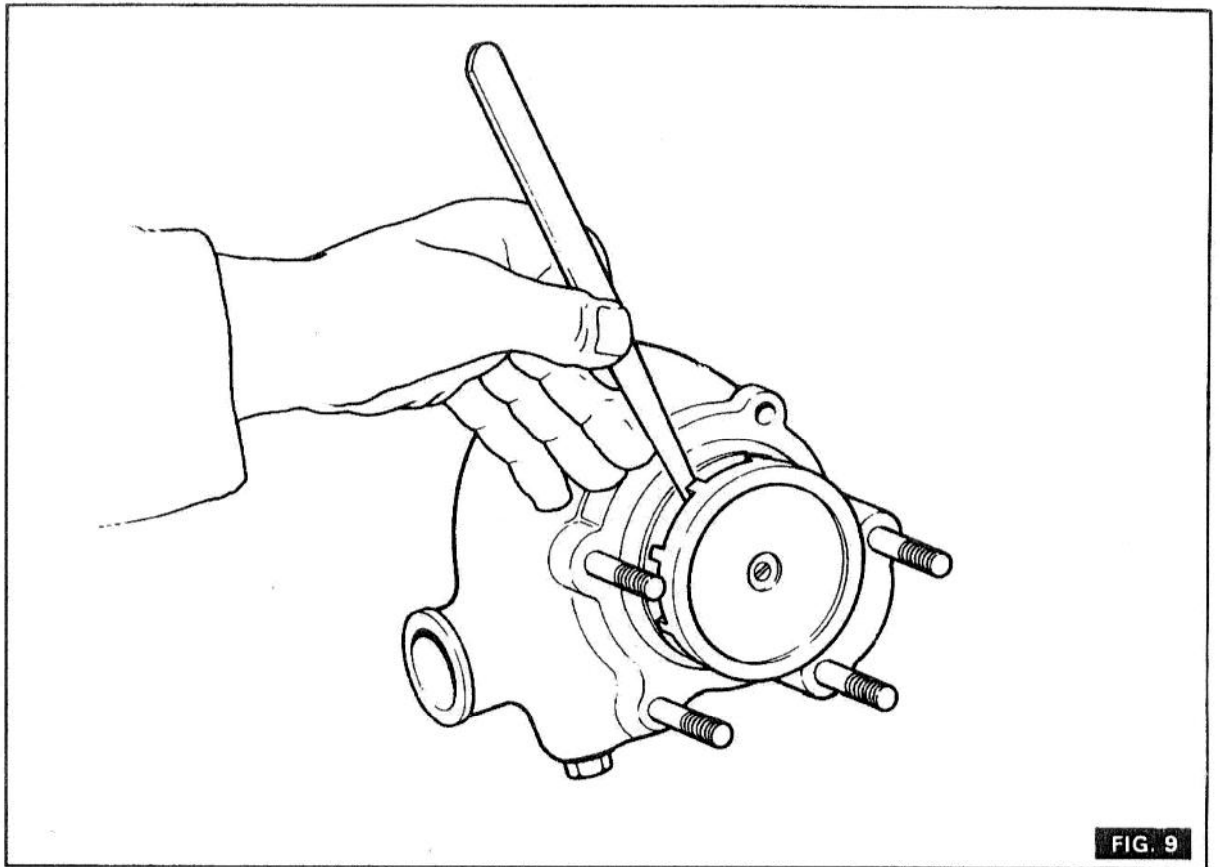

FIG. 9
8. (Fig. 9) Press the impeller into place on the shaft, so that a clearance of 0.012 in. — 0.032 in. (0.30 mm. — 0.81 mm.) is maintained between the impeller vanes and the pump body.